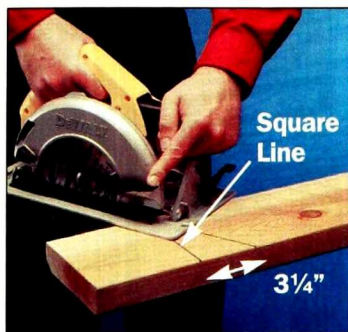

Figure 1: Cut all the parts to size first. You don't need a protractor for an angled cut like this one, simply measure away from a square line.
- To avoid having to measure an angle (which requires another tool), the plan shows the measurements so you can mark your cutting line. Use a tape measure (Figure 1) to mark off and cut the angles on one leg (A) and one brace (E).